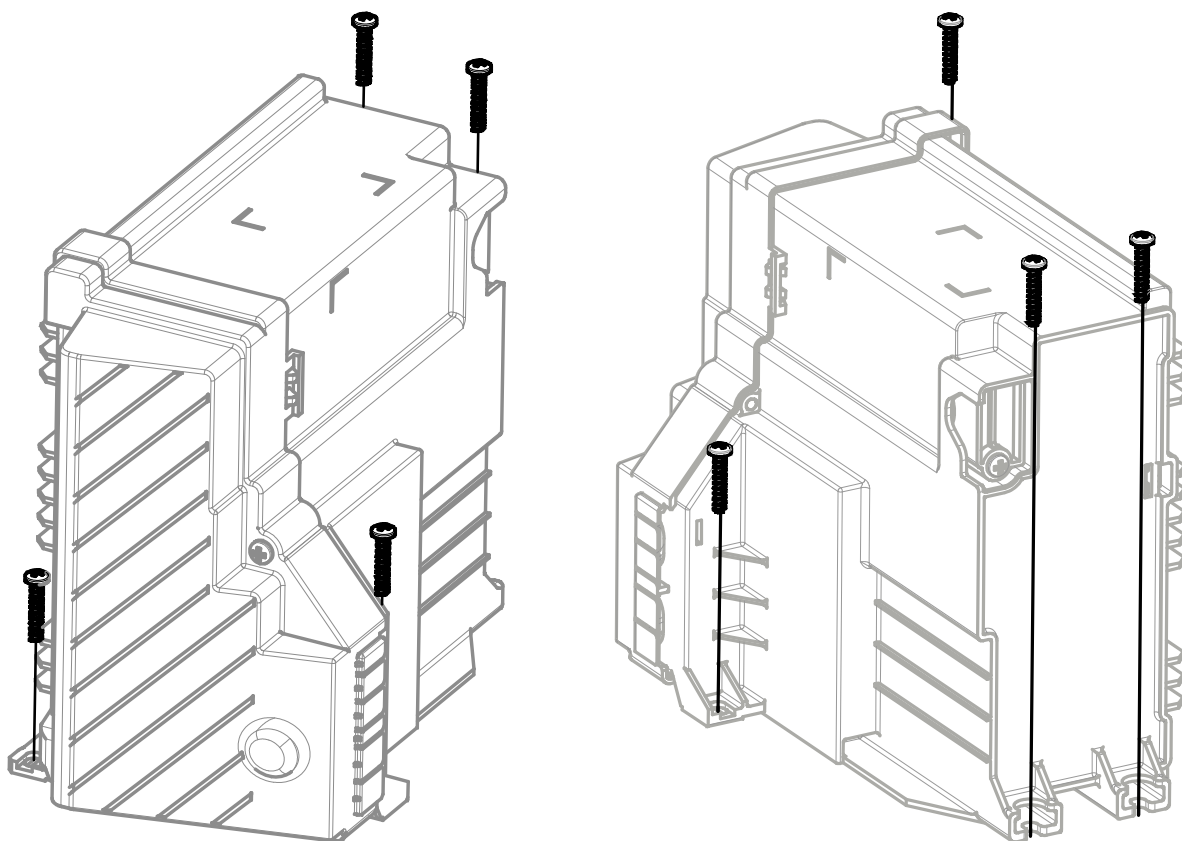

Figure 3-3: Inverter fixation
The inverter must be fixed at all the fixation points indicated in the Figure 3-3, using screws to the appliance frame using the dedicated mounting holes located on the inverter's plastic enclosure.
- The screws shown in Figure 3-3 are for reference only to indicate the fastening positions. Secure the inverter using a screw or washer with a minimum diameter of 10 mm. Tighten to a torque of 1.5 – 2.0 Nm.